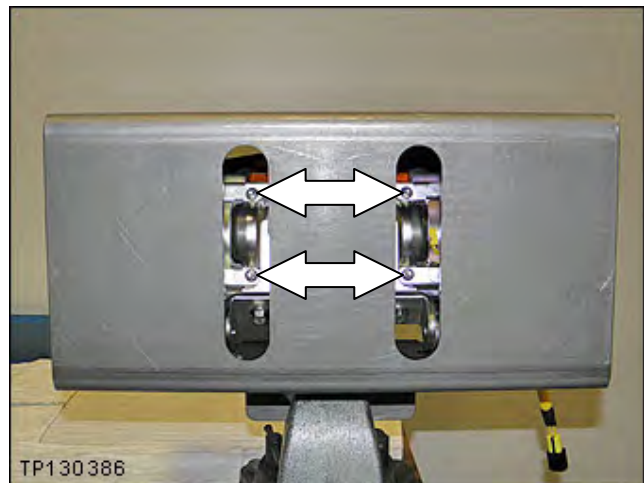

Figure 23
25. Remove the four (4) nuts from the module that hold the inflator in place (see Figure 22 and Figure 23).